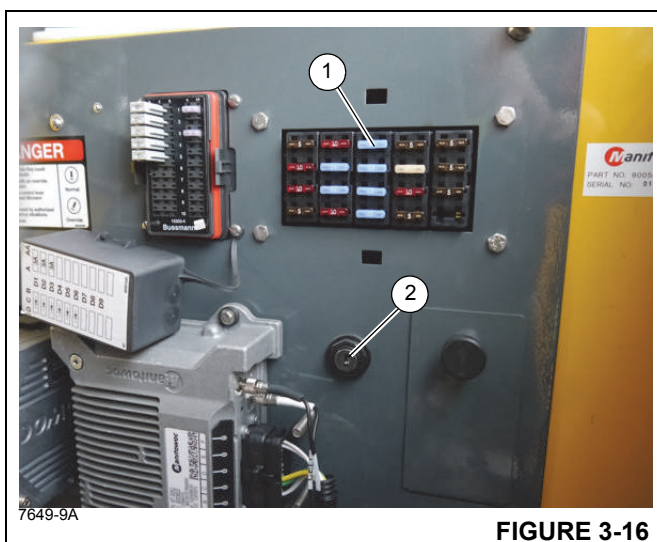

FIGURE 3-16
The fuse panel (1) (Figure 3-16) is located behind the cab seat on the cab fuse and relay panel assembly. It contains up to 20 fuses that protect the various electrical components of the crane.
The RCL emergency override switch (2) (Figure 3-16) is a key operated switch that is located inside the operator cab on the panel assembly behind the seat. When actuated (turned clockwise), the switch will override and prevent the RCL from locking out craning functions (Third Wrap Limit and Anti Two-Block) should an overload condition occur. Turn the key counterclockwise to bypass the Anti Two-Block Switch, Telescope extend/retract, 3rd Wrap Indicator (hoist lowering limit) and Boom up/down.